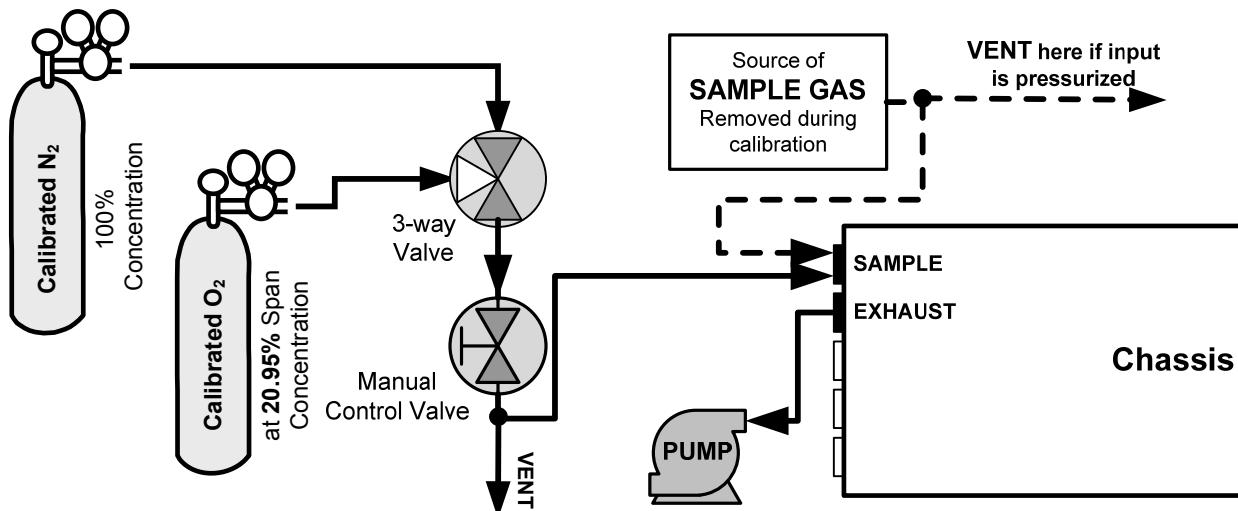

Figure 3-16: Pneumatic Connections—Basic Configuration—Using Bottled Span Gas
- In applications where the sample gas is received from a pressurized manifold, a vent must be placed on the sample gas before it enters the analyzer. Please refer to Figure 3-16.
The span gas, zero air supply and sample gas line MUST be vented (Figure 3-16) for two reasons: in order to ensure that the gases input do not exceed the maximum inlet pressure of the analyzer, and to prevent back diffusion and pressure effects. These vents should be: